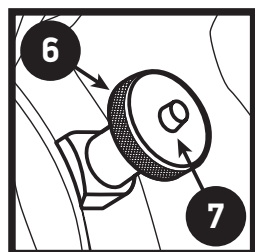

Figure 5
7. Ensure that the abrasive belt is tensioned properly. To do this, raise the tensioning handle (Figure 5). You will hear mechanical clicks as the tensioning ratchet moves. Generally, the belt will be adequately tensioned when you hear three to eight clicks. To reduce or release the belt tension slightly raise the tensioning handle then press the button in the center of the tensioning handle. Move the tensioning handle down slightly to reduce belt tension or all the way down to release belt tension.